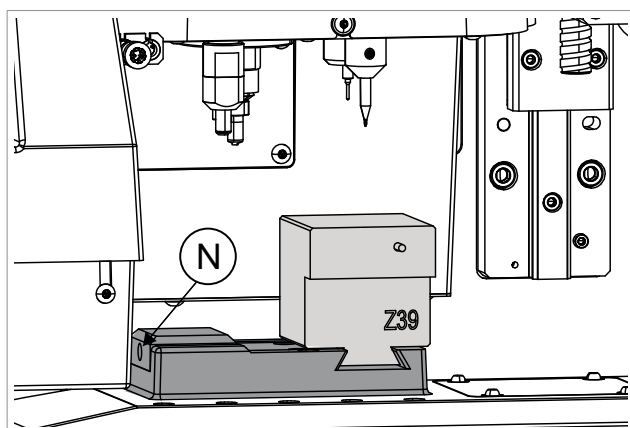
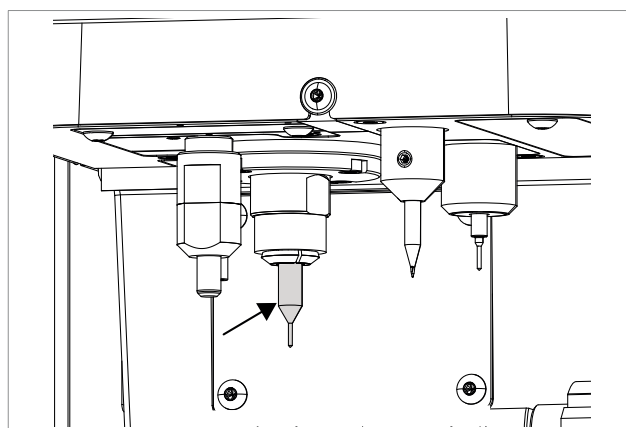

Fig. 63
Fig. 64
- 1) Loosen the grub screw (N) (Fig. 63) and remove the existing clamp.
- 2) Insert Z39 template into the dovetail. (Fig. 63).
- 3) Tighten the grub screw (N).
- 4) Install the supplied 10T tracer point in place of the cutter (Fig. 64).